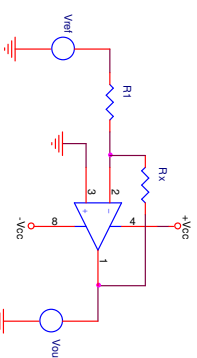
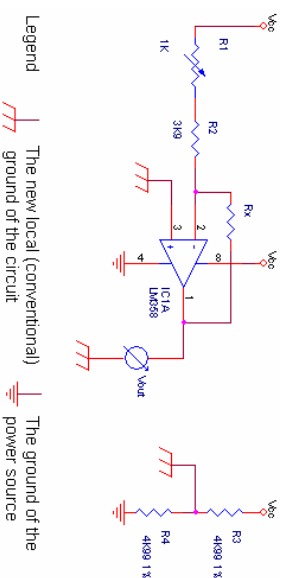
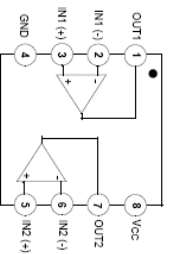

Figure3: Ohmmeter with linear scale, theoretical version
Figure 4: Linear - Scale Ohmmeter, practical version
Figure 5: Integrated Circuit LM358
A solution that uses active components is given in the schematic from Figure 3
The schematic from figure 3 is based on the inverter "classical" configuration of an Operational Amplifier, powered by a differential supply (+/- Vcc from the ground), namely a symmetrical double supply. The existence of a negative supply allows a negative voltage at the output, when the input is positive. But for portable devices, powered by a battery, the existence of a double supply is uneconomical. A possible solution is using a single supply, having the value Vcc, and creating a local ground, a "conventional" ground, by means of a resistive divider. On the schematic from figure 4, the conventional ground, having the symbol TTT is at Vcc/2 below the (+) plug of the power supply, and with Vcc/2 above the ground plug TTT of the power source. The conventional ground TTT will be the reference ground of the input and the output signals. Consequently, the maximum excursion of these signals will be +/- Vcc/2 around this ground. Now there is possible to obtain positive and negative voltages, referenced to the conventional ground TTT .
In order not to complicate the circuit with an additional voltage, use $V_{cc}/2$ from the conventional ground --- (meaning V_{cc} from the ground ---), as reference voltage, V_{ref} from figure 3 (the input voltage), namely the same voltage as the pin 8 of the Op-Amp. The output voltage (observe that the voltmeter is connected between the output and the ground ---) is:
Assemble, on the bread board, the schematic from figure 4. Use one of the 2 Op-Amps available in the capsule of the LM358 circuit. The pinout is given in Figure 5. Connect the adjusting resistance using the pin in the middle (the cursor) and any of the other two pins. To create the ground --- use any two resistances with equal values and the precision of 1%, available (not necessarily 4K999).
- For the circuit in figure 3, determine the relation between the resistance R_x and the output voltage.
- For the circuit in figure 3, determine the measurement range for the resistance R_x , if the power supply voltage is $\pm V_{cc}=\pm 5V$, the resistance $R_1=10K\Omega$ and the voltmeter has $U_{fs}=10V$.
- Determine the error done by the voltmeter in figure 3, when measuring a resistance $R_x=500\Omega$, if the power supply is $U_{fs}=5V \pm 1\%$, the resistance $R_1=5K\Omega \pm 1\%$, and the voltmeter has $U_{fs}=10V$ and precision class $C=0.5\%$.
- For the circuit in figure 3, $E=10V$, $R=5K\Omega$. The voltmeter has $U_{fs}=3V$. The indication of the voltmeter is $U=1V$. Determine R_x and $R_{x, fs}$ - the full scale resistance.